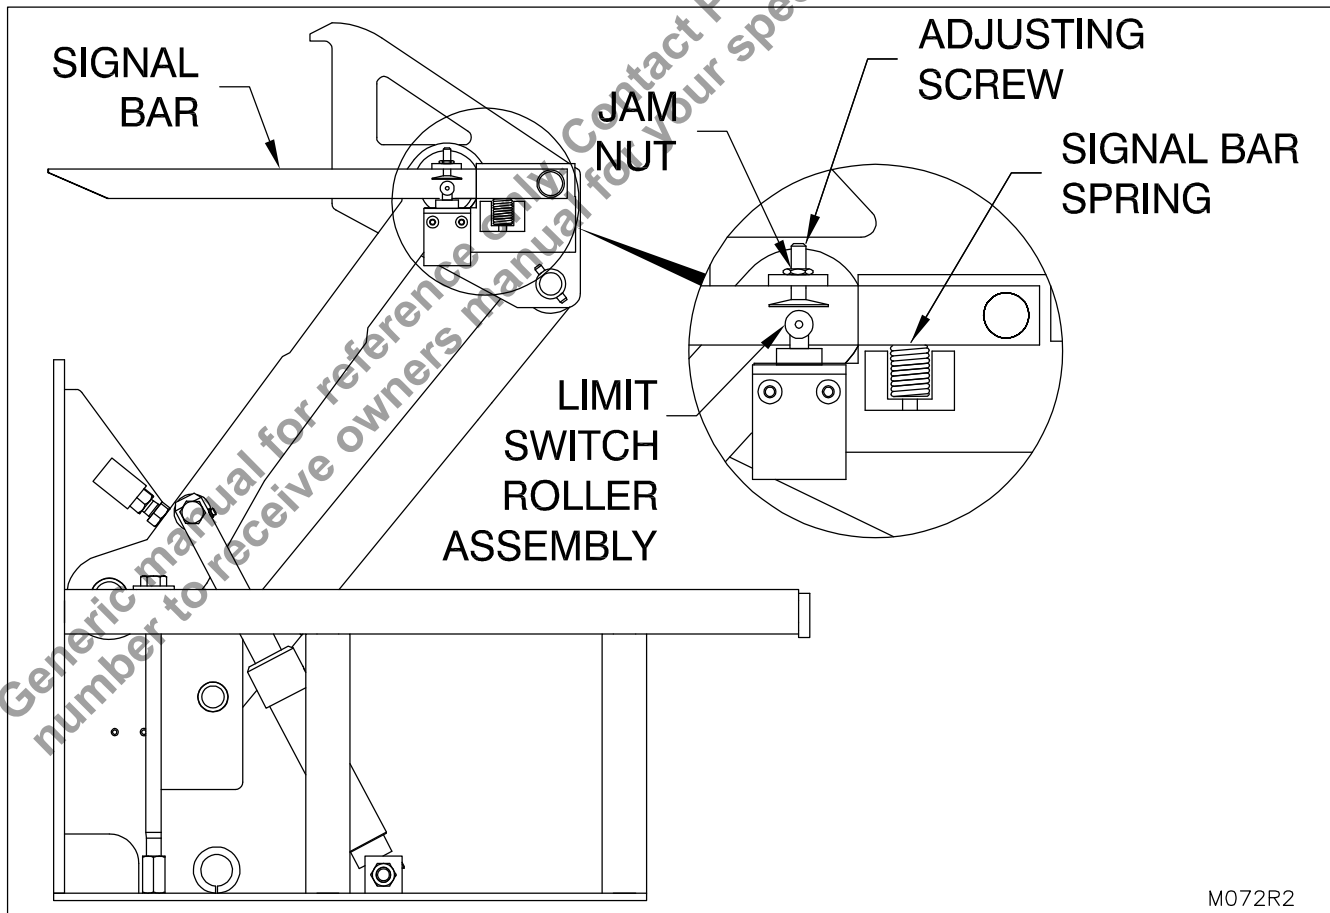

Figure 23: Setting the Signal Bar Limit Switch
- a. Confirm that the signal bar limit switch has not been depressed (See "Figure 23: Setting the Signal Bar Limit Switch" on page 31).
- b. Check the signal bar spring is in place (See "Figure 23: Setting the Signal Bar Limit Switch" on page 31).
- c. Check signal bar limit switch adjustment on signal bar (See "Figure 23: Setting the Signal Bar Limit Switch" on page 31).
- c. Check signal bar limit switch adjustment (See "Figure 23: Setting the Signal Bar Limit Switch" on page 31).
- d. Confirm that the signal bar limit switch is not activated. (See "Figure 23: Setting the Signal Bar Limit Switch" on page 31)
- c. Confirm that the signal bar limit switch is not activated. (See "Figure 23: Setting the Signal Bar Limit Switch" on page 31)
- Raise the signal bar and confirm that the signal bar spring is in position (See "Figure 23: Setting the Signal Bar Limit Switch" on page 31).